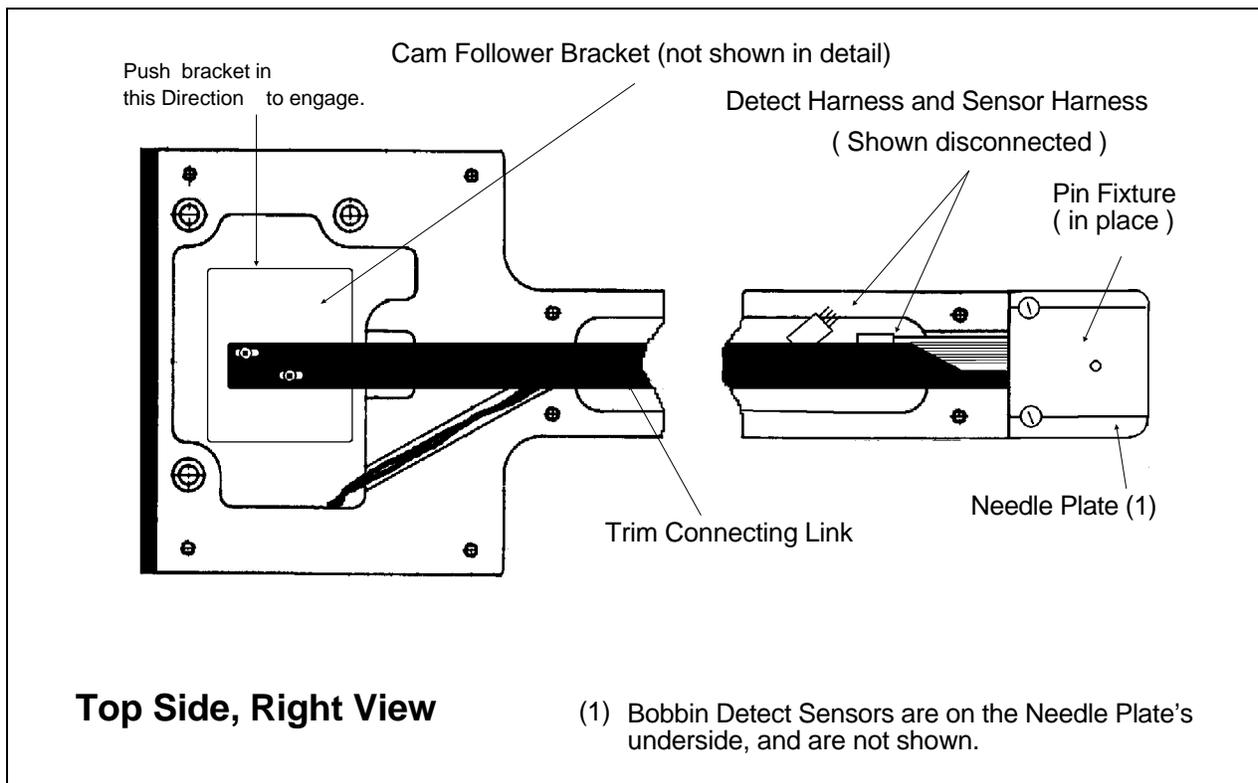

Fig. 2-12
8. Insert the Pin Fixture lengthwise as shown in Fig. 2-12.